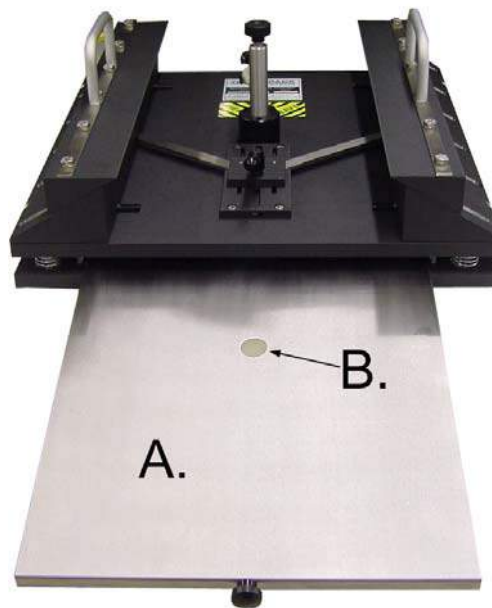

Figure 1.
- Use the black knurled knob on the stainless steel shuttle tray to pull it out. (Figure 1. A.) Place the flexible package onto tray lining up the desired puncture site. (Figure 1. B.)